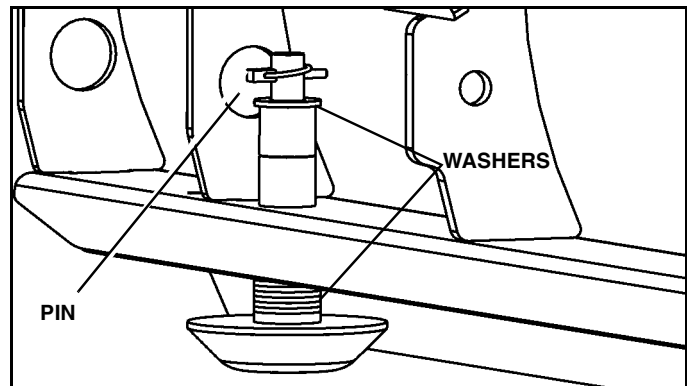

Figure 1-49
4. Adjust shoe assemblies by removing shoe mounting lynch pin and adding or subtracting washers on the top or bottom of the shoe-mounting bracket. (See Figure 1-49)